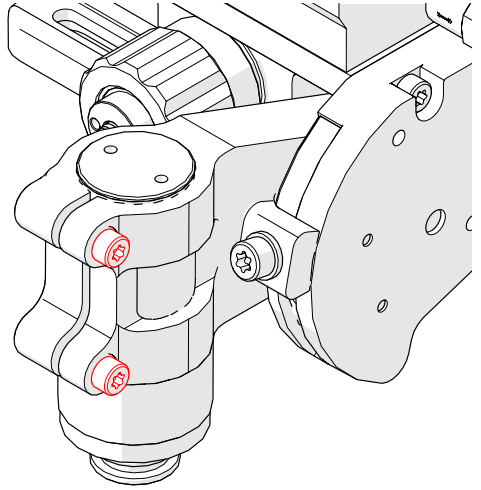

Fig. 186 - Tighten two screws
4. Tighten the two clamp screws (Fig. 186).